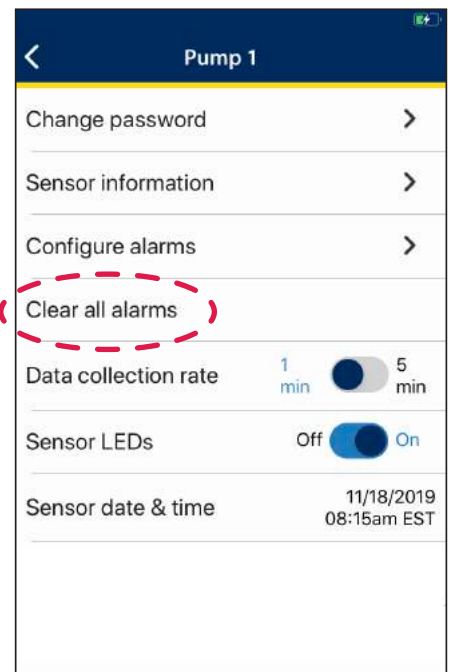

Figure 33
2. Select **Clear All Alarms** (see figure 33).